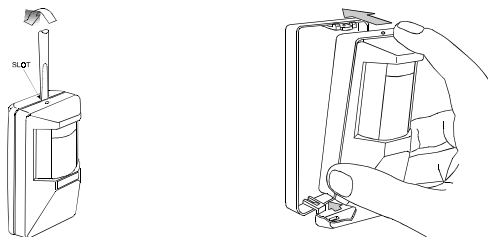

Figure 6. Removing the Cover Figure 7. Replacing the Cover
- E. To open the cover, insert a small screwdriver into the slot on top of the unit (Fig. 6). Press the blade in slightly and lever backwards. The cover (with the lens) hinges outward and removes easily.